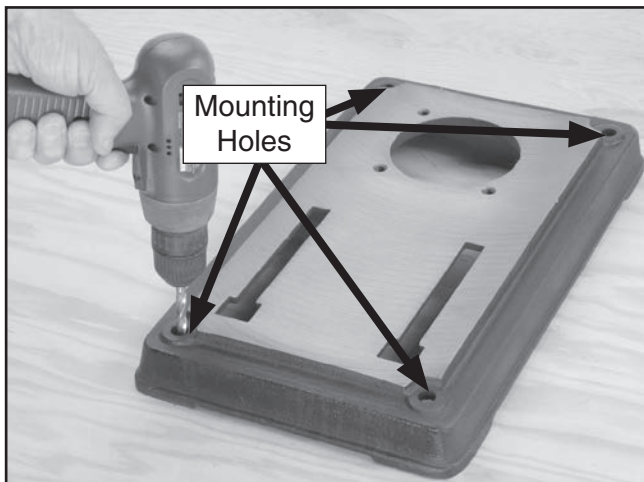

Figure 7. Using holes as a drilling guide.
2. Using holes in the base as a guide (see **Figure 7**), drill and bolt the base to the bench top using 1/2" lag bolts, or hex bolts, flat washers, and hex nuts.